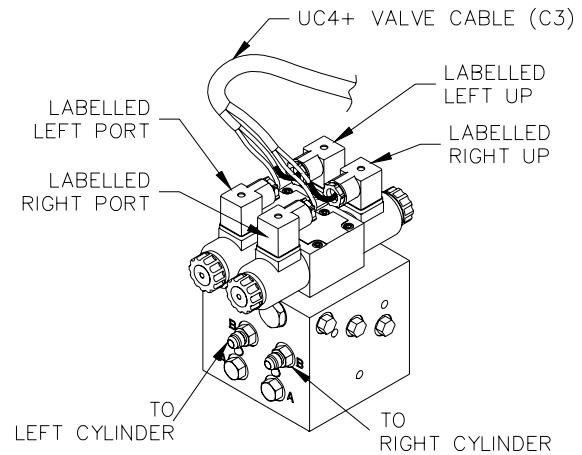

Figure 26 – Valve Cable Connections
14. As shown in Figure 26, the connectors on C03 are marked **RIGHT UP**, **LEFT UP**, **RIGHT PORT** and **LEFT PORT**. Cables labeled with **PORT** go on the side as the hydraulic hoses. Fasten with the included rubber seals and screws.